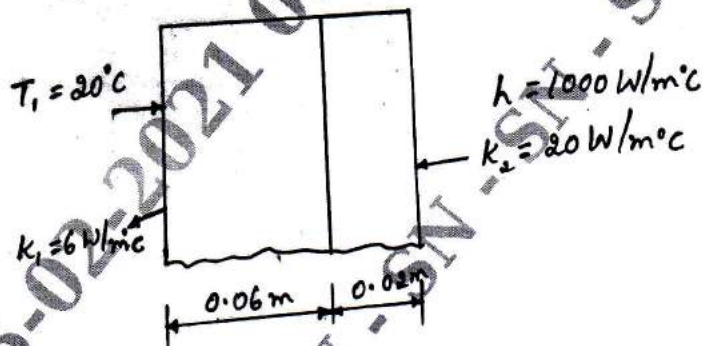

Fig Q10(b)
b. Determine the temperature distribution through the composite wall subjected to convection heat loss on the right side surface with convective heat transfer coefficient as shown in Fig Q10(b). The ambient temperature is  $-5^{\circ}\text{C}$ .